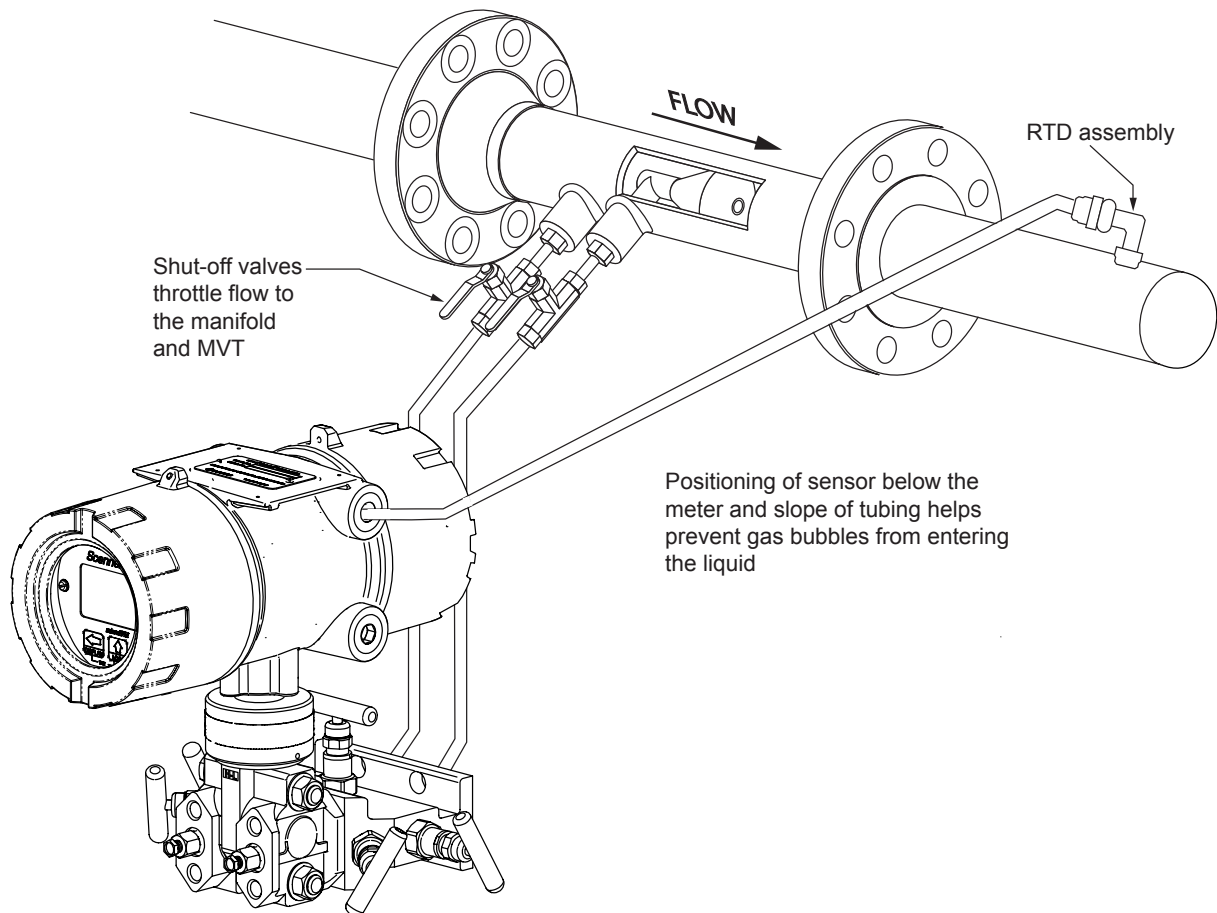

Figure 2.13—Remote-mount liquid run installation (shown here with a cone meter). The remote-mount method can be used with an orifice meter as well.
A Scanner 2100 can be mounted remotely and connected to an orifice meter or cone meter with tubing for liquid measurement (Figure 2.13, page 47). The setup of the meter run and plumbing configurations can vary widely, depending upon the challenges existing on location.
**CAUTION** When measuring liquid, process connections must be designed to eliminate air pockets. This is achieved by mounting the sensor below the metering device and sloping all tubing downward from the meter to the sensor. A side-port MVT and block manifold (shown in Figure 2.13, page 47) is recommended to help prevent air bubbles from being trapped in the sensor.